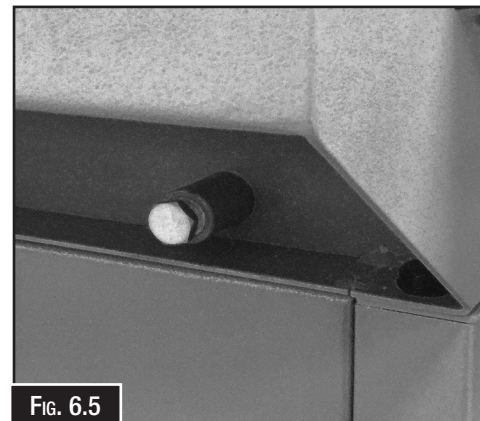

FIG. 6.5
2. Place a container under the drain and remove the drain plug on the side of the machine. (Fig. 6.5)